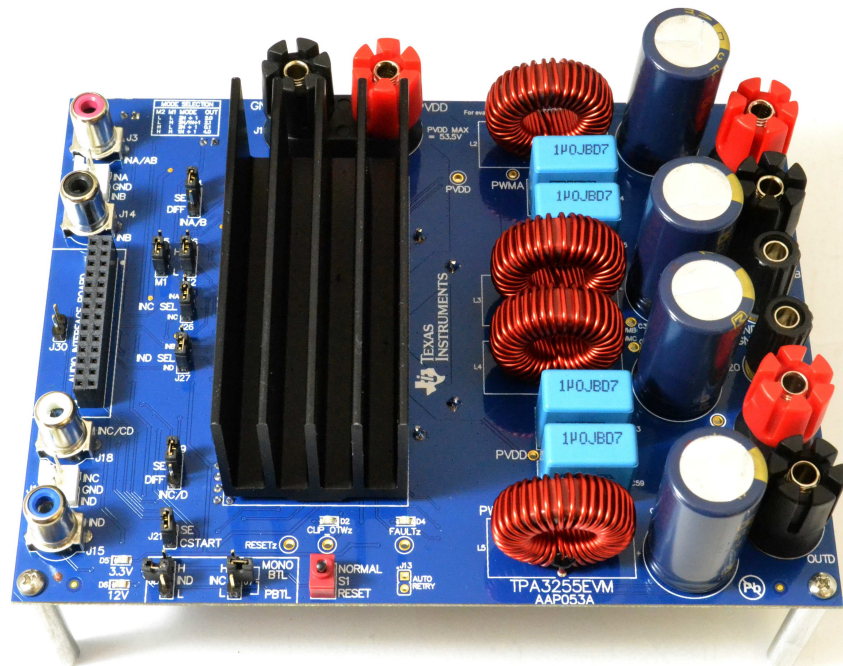

Figure 1. TPA3255EVM
- Check that jumpers are in their default state as shown in Figure 1 and Table 3 for stereo BTL operation: